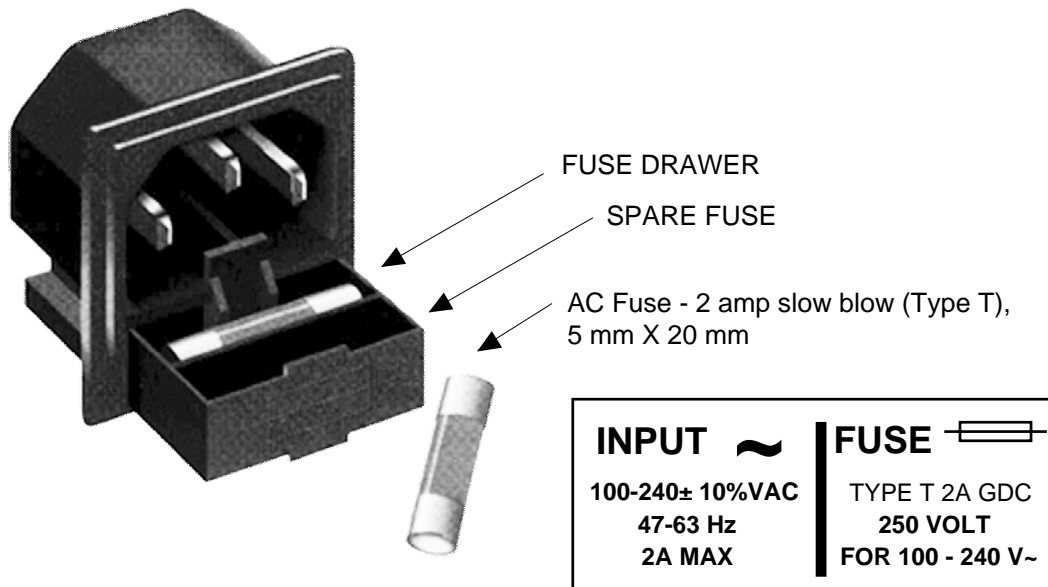

Figure 2.3 Fuse Location and Spare Fuse
- 5.) **AC Fuse** - The fuse is a 5 mm X 20 mm, 2 amp slow blow (Type T) and is inserted in the far slot in the drawer below the AC input as shown in Figure 2.3. There is a spare fuse in the near slot.